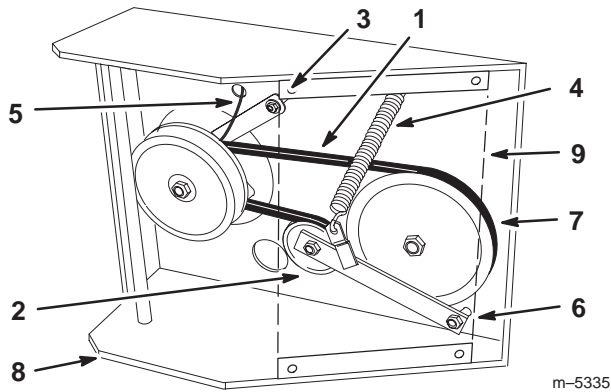

Figure 55
4. Remove clutch retainer from the engine deck (Fig. 55).
5. Unhook tension spring from side of frame (Fig. 55).
8. Torque pivot bolt to 35-40 ft. lb. (47-54 N.m). Install tension spring between idler arm and frame bracket (Fig. 55).
9. Install clutch retainer to the engine deck (Fig. 55).